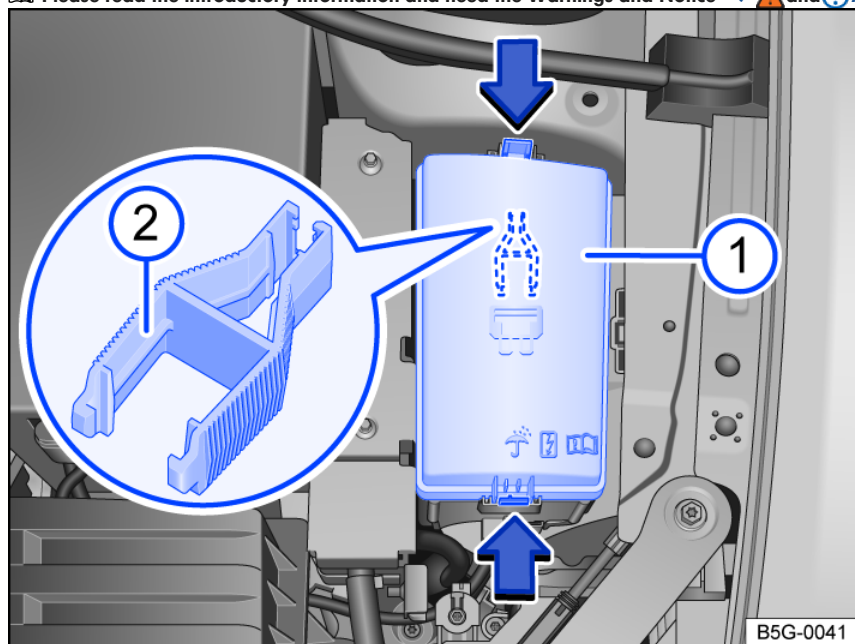

Fig. 174 In the engine/motor compartment: fuse box cover (1) with plastic pliers (2).
- Press the locks in the direction of the arrow *fig. 174* (arrows) to release the fuse box cover *fig. 174* (1).
There are plastic pliers for removing fuses on the inside of the fuse box cover In the engine/motor compartment *fig. 174* (2).